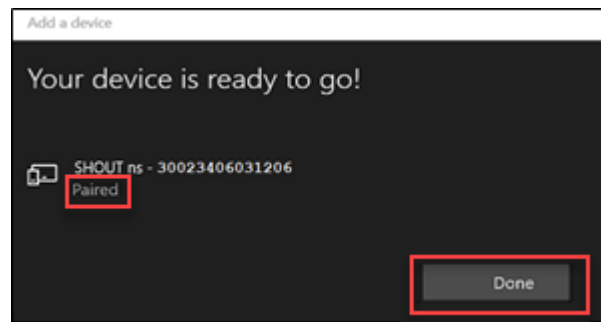

Figure 9: BT & other devices
The *Your device is ready to go!* Pop-up window displays (see **Figure 9**).
9. Select **Done** (see **Figure 9**).